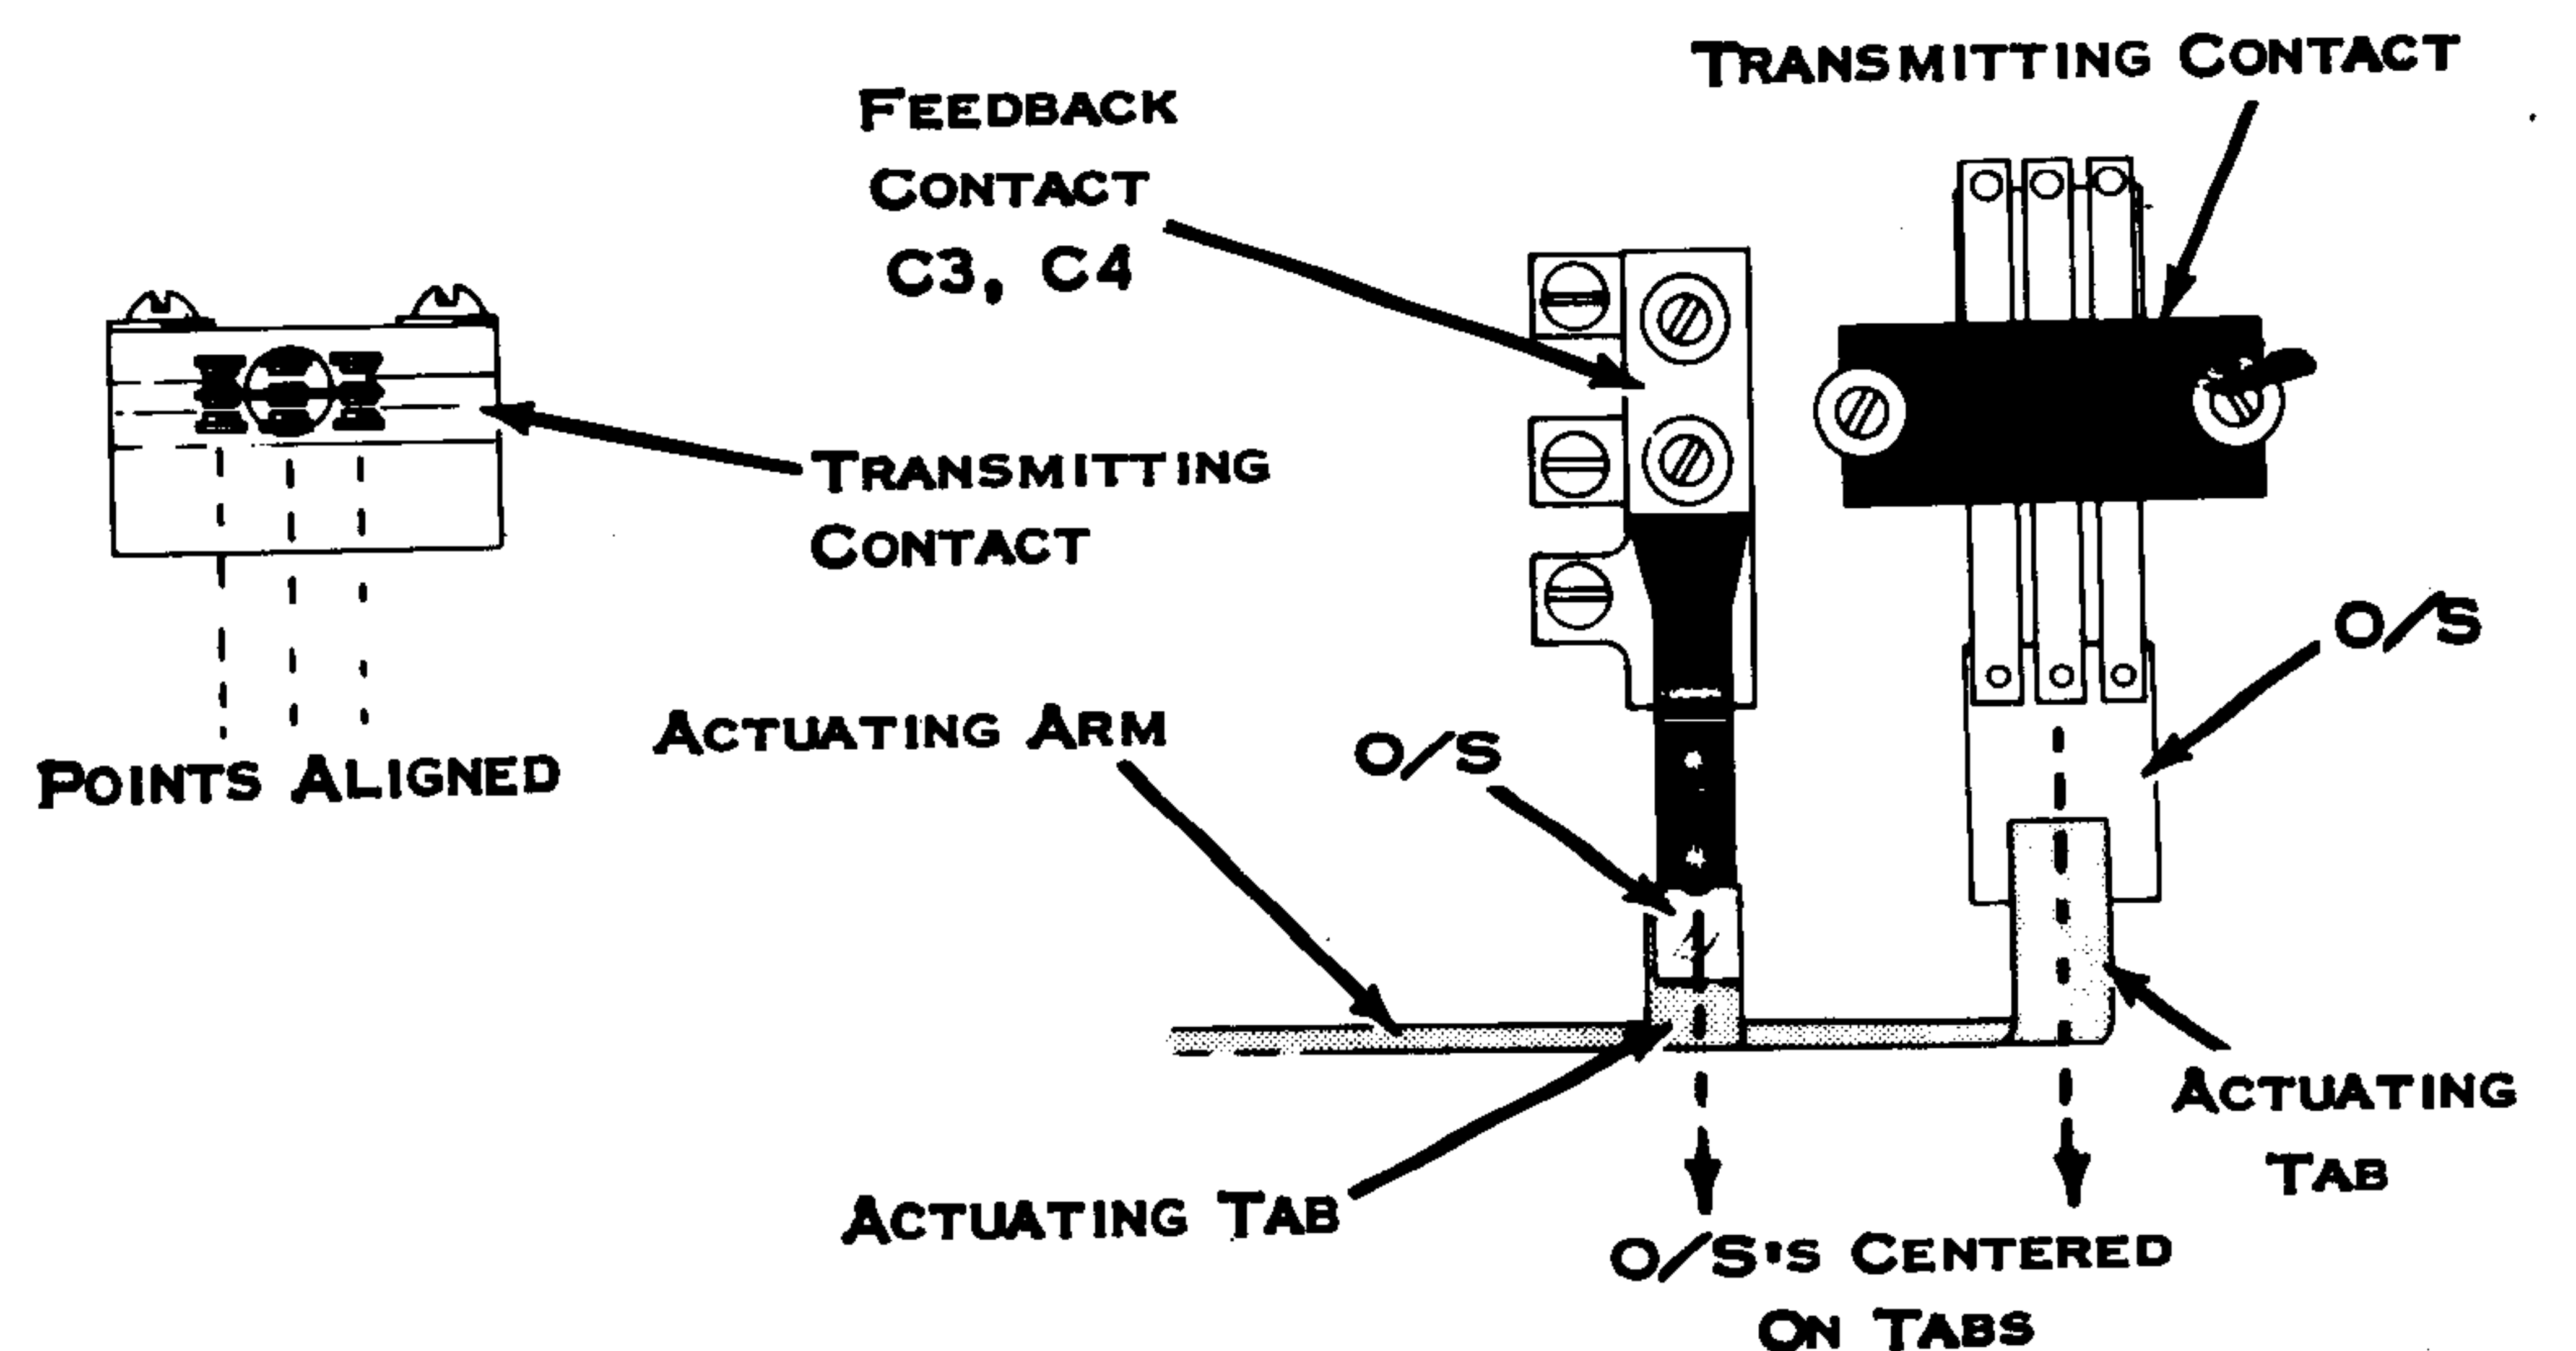

Figure 102. Contact Positioning
2. Contact Positioning (Fig. 102) - Position the feedback and transmitting assemblies under their mounting screws for the following conditions: